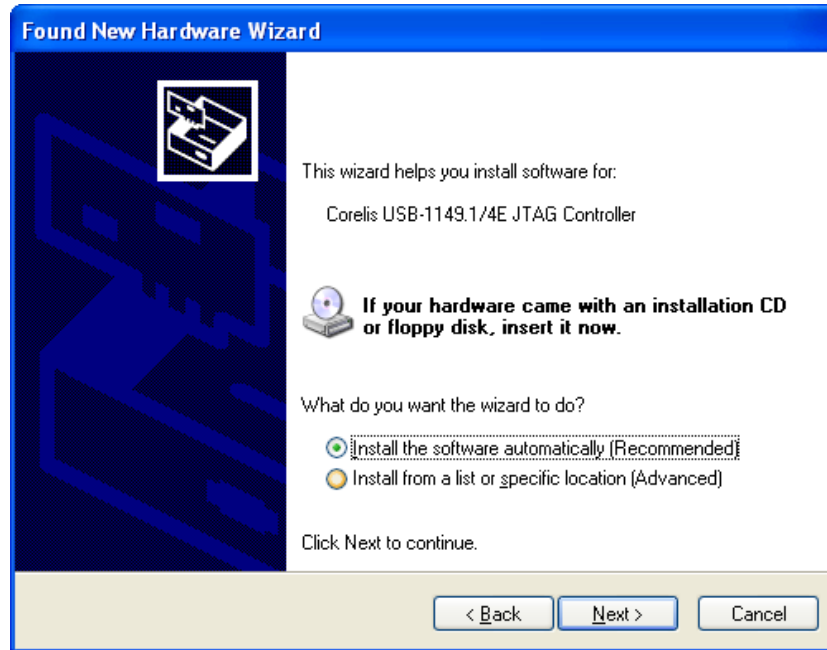

Figure 2-2. Found New Hardware Wizard
5. The following dialog box as shown in Figure 2-2 will pop up. Select “**Install the software automatically (Recommended)**” and click on the **Next** button.